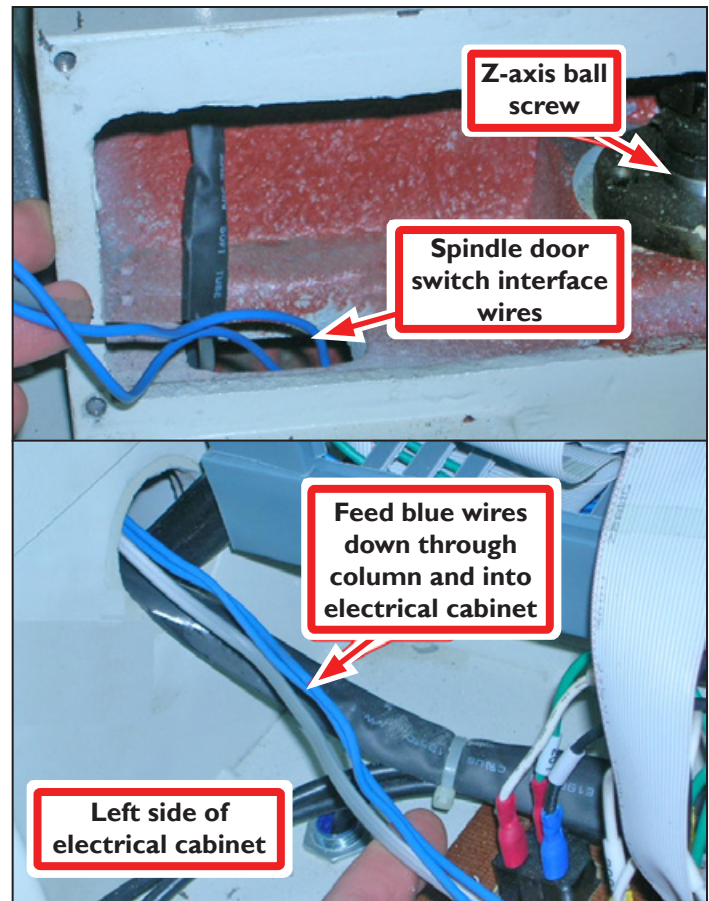

Figure 16
2. Move the Control Assembly's blue wires down the access hole (see **Figure 16**).
3. Thread the wires down through to the column access hole to the inside of the main electrical cabinet (see **Figure 16**).